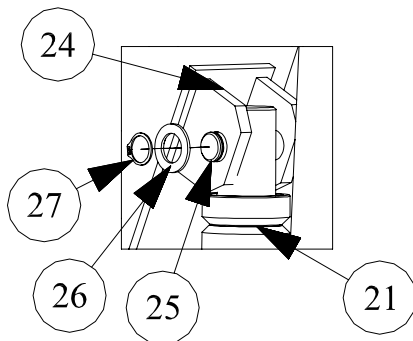

Figure 10
- On the opposite side of the retaining pin [#25], place the other 3/4" washer [#26] onto the retaining pin [#25] and then snap the other 3/4" retaining ring [#27] into the groove on the retaining pin [#25] as shown in Figure 10.